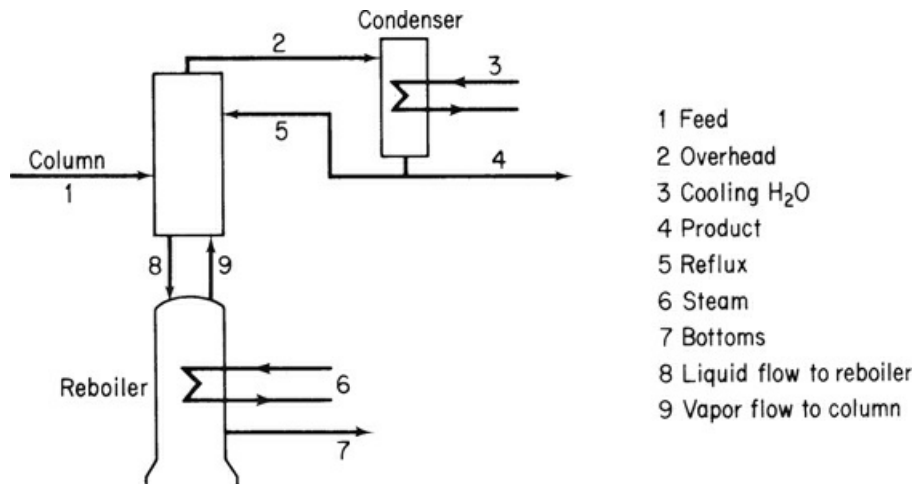

Figure P5.1.4
****5.1.4** The diagram in Figure P5.1.4 represents a typical but simplified distillation column. Streams 3 and 6 consist of water and steam, respectively, and do not come in contact with the fluids in the column that contains two components. Write the total and component material balances for the three sections of the column. How many independent equations would these balances represent? Assume that stream 1 contains n components.